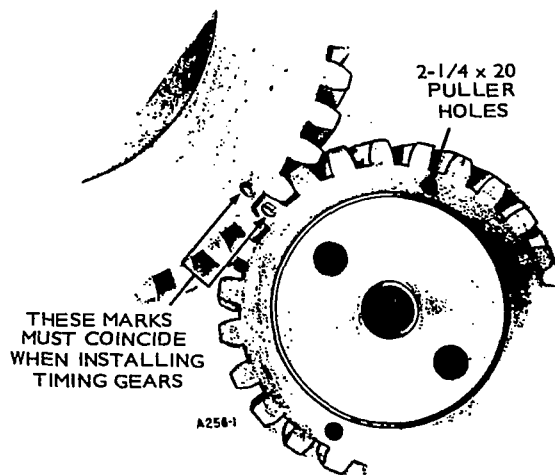

FIGURE 63. TIMING MARKS
5. Install camshaft assembly in engine. Align timing marks on camshaft gear and crankshaft gear. See Figure 63.